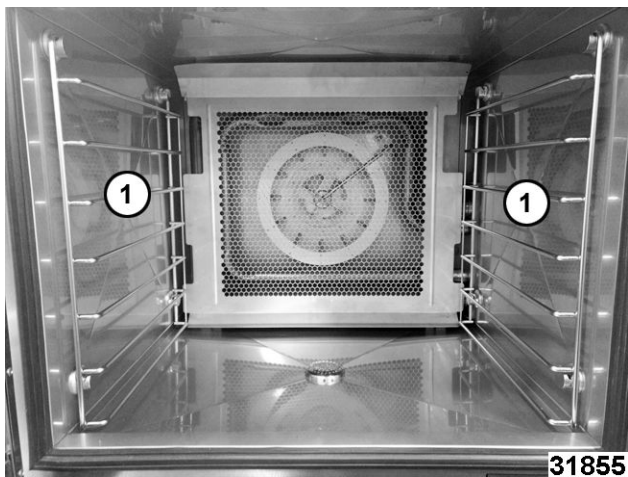

Fig. 83
2. Remove left and right rack guides (1, Fig. 83).